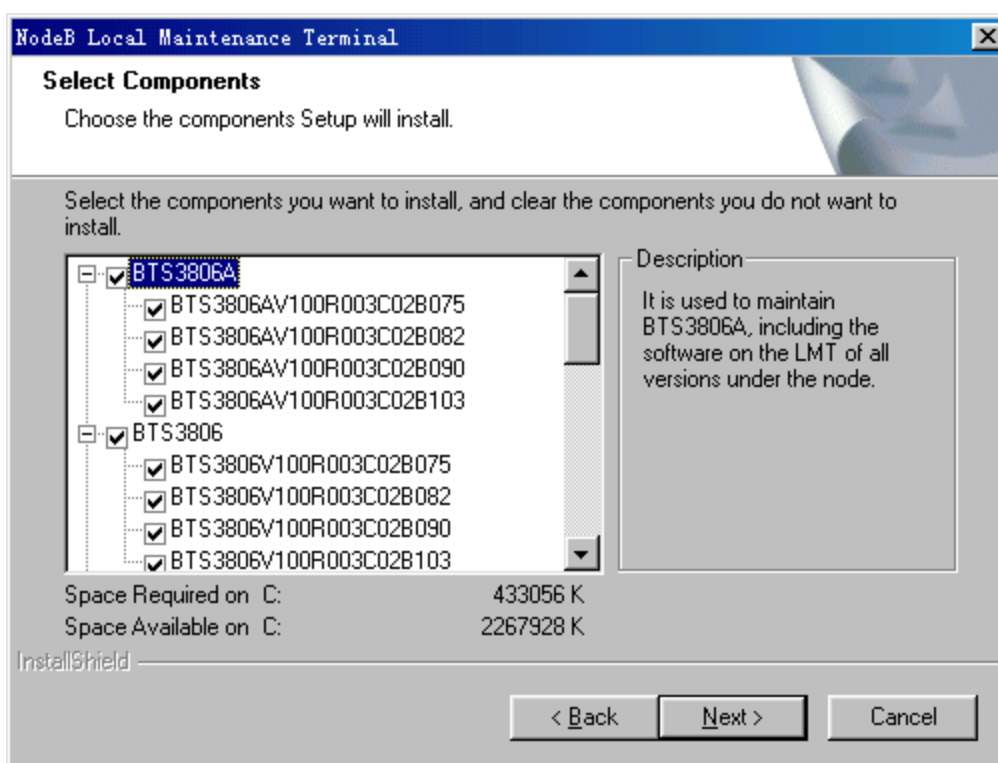

Figure 3-8 Select Components dialog box
- 2) Tick the needed components in **Select Components** dialog box as shown in Figure 3-8.